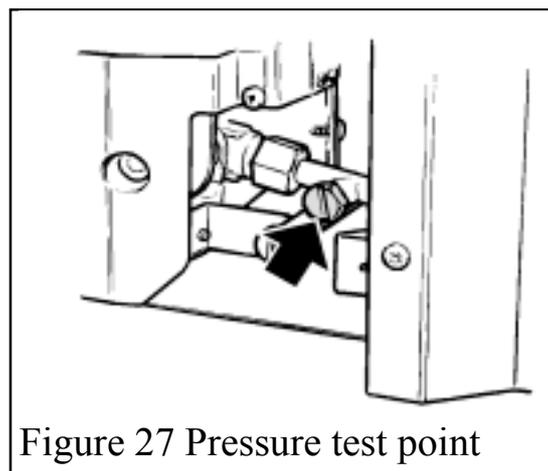

Figure 27 Pressure test point
1. Check the burner pressure by fitting a pressure gauge at the test point. The test point is on the pipe situated below the bottom right corner of the burner unit. See figure 27. Check the pressure with the appliance alight and set at maximum output.